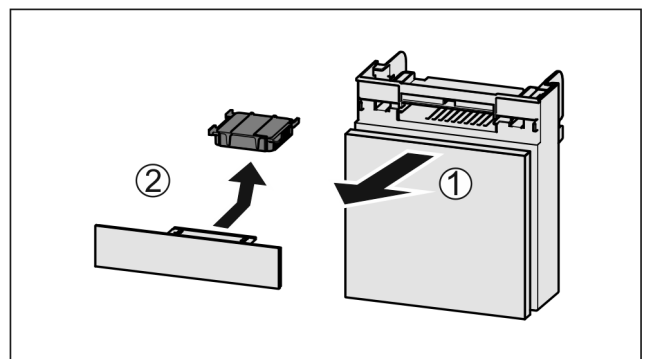

Fig. 167
- ▶ Pull out the compartment Fig. 167 (1).
- ▶ Remove the carbon filter Fig. 167 (2).